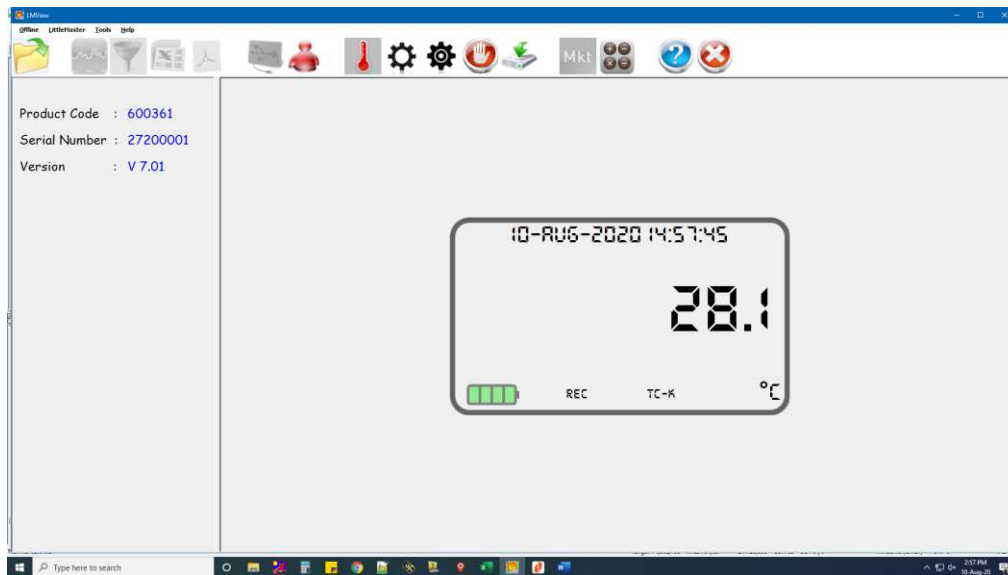

Figure 6 Current Temperature Reading of the LM-U Pro Data logger
- Connect the data logger to Windows PC via the Micro USB data cable. The current temperature reading as per the selected sensor will be seen as shown in the figure 6.